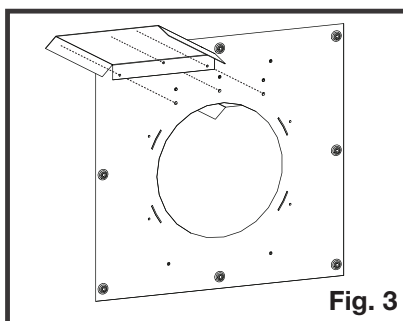

Fig. 3
3. Install the other vent shield on the opposite side of the firestop spacer (**Figure 3**).